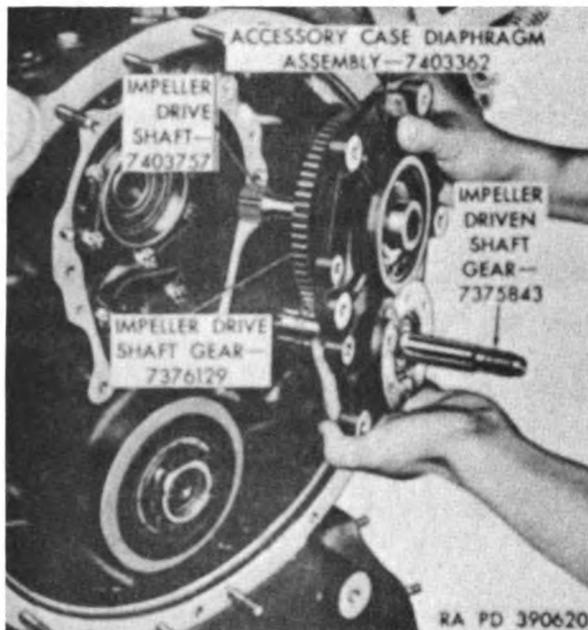

Figure 116. Installing accessory case diaphragm assembly.
- (11) Install impeller drive shaft (P) in bore of drive shaft gear, engaging splines on drive shaft with splines in gear.
- (12) Aline impeller drive shaft with bore in accessory case and inner race of bearing on impeller driven shaft gear with bore of outer race of roller bearing in accessory case and install diaphragm assembly on accessory case as shown in figure 116. Dowel pin holes in diaphragm must aline with dowel pins in accessory case.
- (13) Secure diaphragm assembly to accessory case with six  $\frac{5}{16} \times 1\frac{1}{4}$  hex-head bolts (F) and  $2\frac{1}{16}$  id,  $\frac{9}{16}$  od, 0.0630 thick flat washers (G). Secure bolts with locking wire.
- (14) If oil seal (C) was removed from impeller driven shaft gear oil seal housing (D), install impeller spacer (B) in new oil seal. Drive oil seal and spacer in housing using a suitable driving tool, using care not to damage seal. Slide oil seal housing, with oil seal, spacer, and impeller spacer washer (A), onto diaphragm assembly